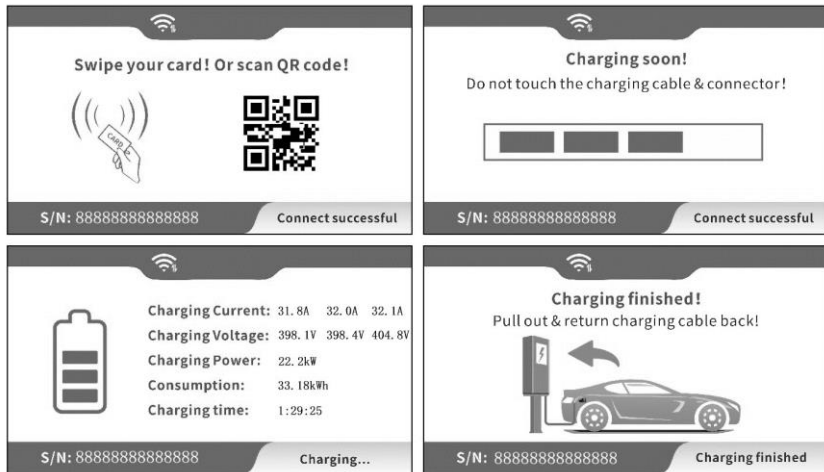

Fig. 6-3 Display of normal charging
- As shown in Fig. 6-3, the LCD screen displays 4 types picture in normal charging process.